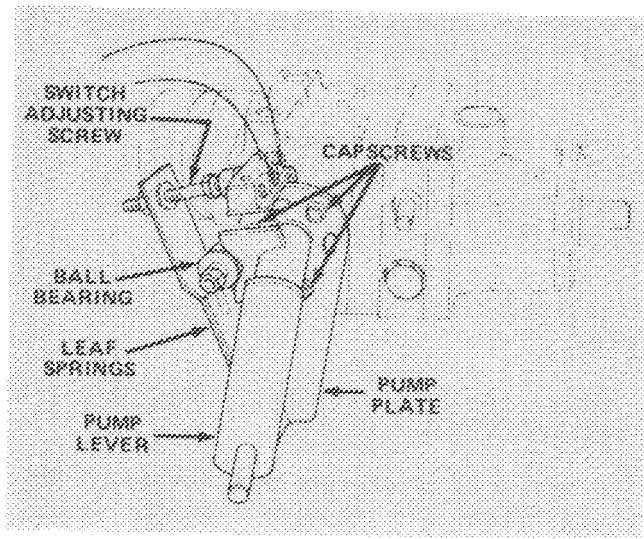

Figure 58
1. Park vehicle on a level surface and turn engine off. Apply the parking brake, tip seat forward and actuate pump lever (Fig. 58) to insure assembly is properly seated and operating freely. Correct any discrepancy.
6. Because the wheel is rotating, the pump plate must be adjusted. But before adjusting the pump plate, move throttle to SLOW. If wheel is rotating forward, loosen capscrews and lightly tap bottom of pump plate counterclockwise (Fig. 58). By contrast, tap pump plate clockwise if wheel is rotating backward (Fig. 58). When wheel stops rotating, tighten capscrews holding pump plate against side of transmission. Verify the adjustment with throttle in SLOW and FAST position.
- A. Ball bearing is loose or worn out (Fig. 58).
- F. Weak or damaged leaf springs (Fig. 58). Replace.
2. Actuate the pump lever (Fig. 58) to insure all parts are operating freely and seated properly.
3. Rotate switch adjusting screw (Fig. 58) until there is a gap between head of screw and switch button.